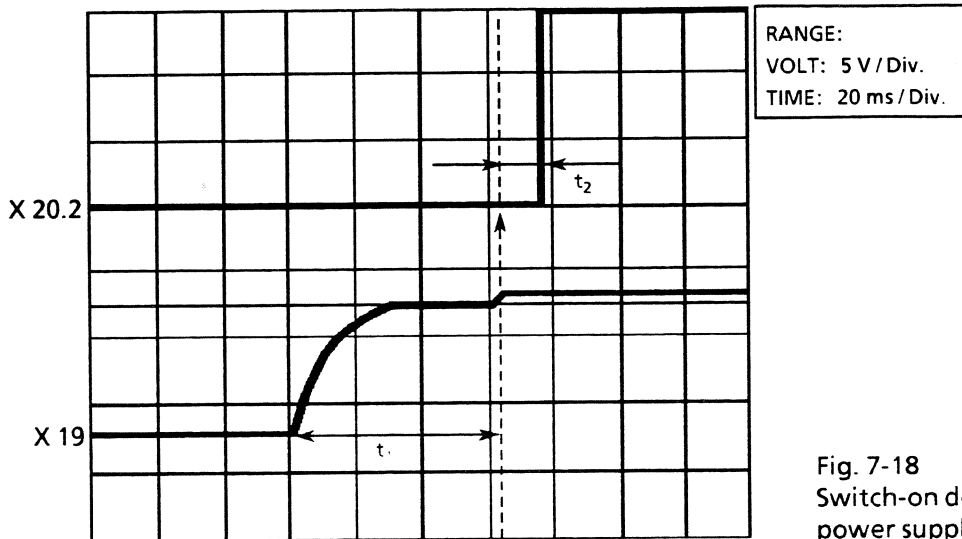

Fig. 7-18
- ▶ Checking the switching times at the oscilloscope (fig. 7-18):